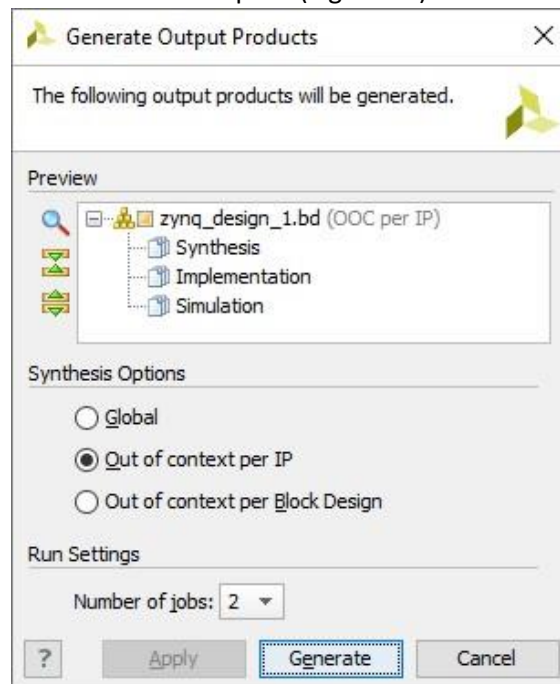

Figure 19: Generating output products.
2. The **Generate Output Products** window opens (Figure 19). Leave the default settings and click **OK**.